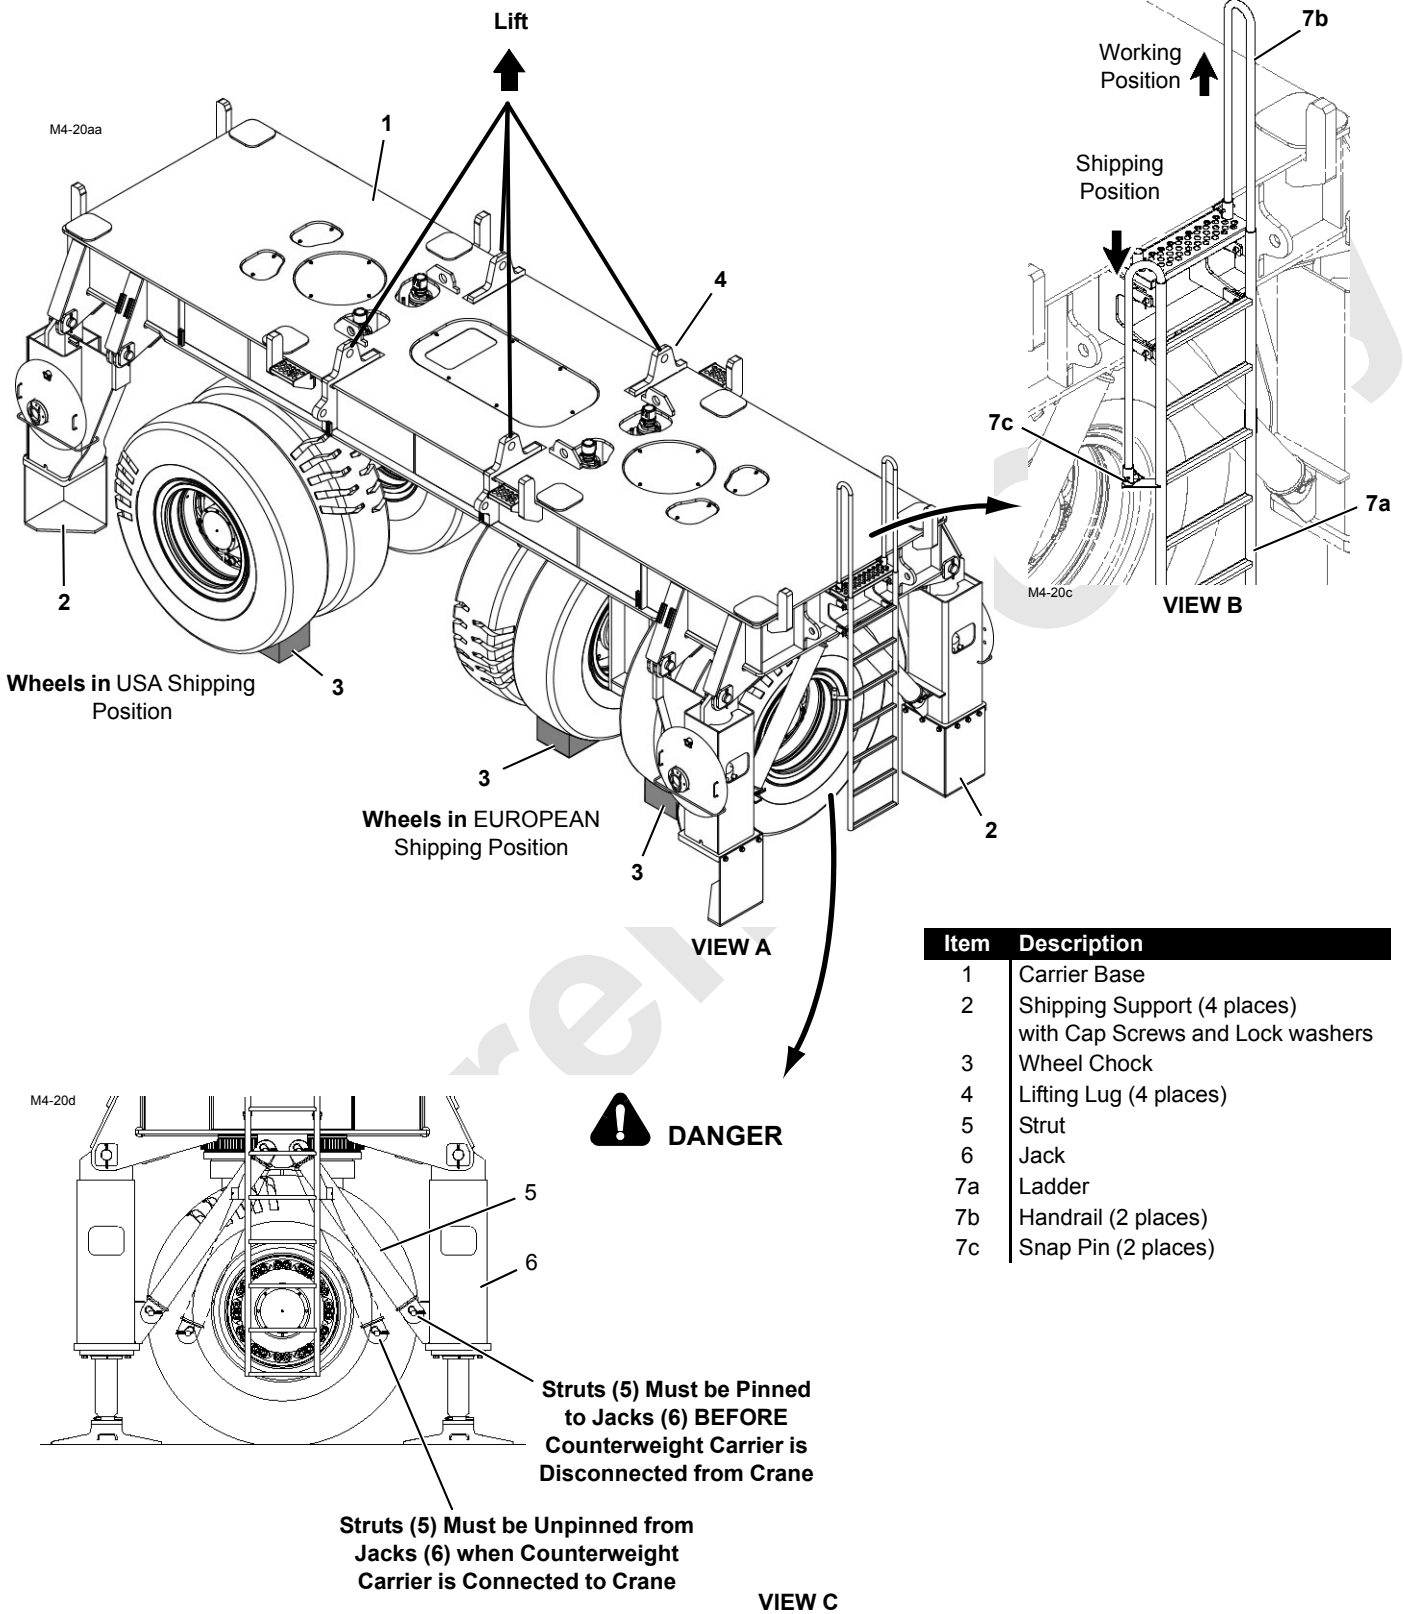

FIGURE 4-25
Carrier base (1, Figure 4-25) must be supported by shipping supports (2) or by jacks (3) with jack pads installed.
See Figure 4-25 for the following procedure.